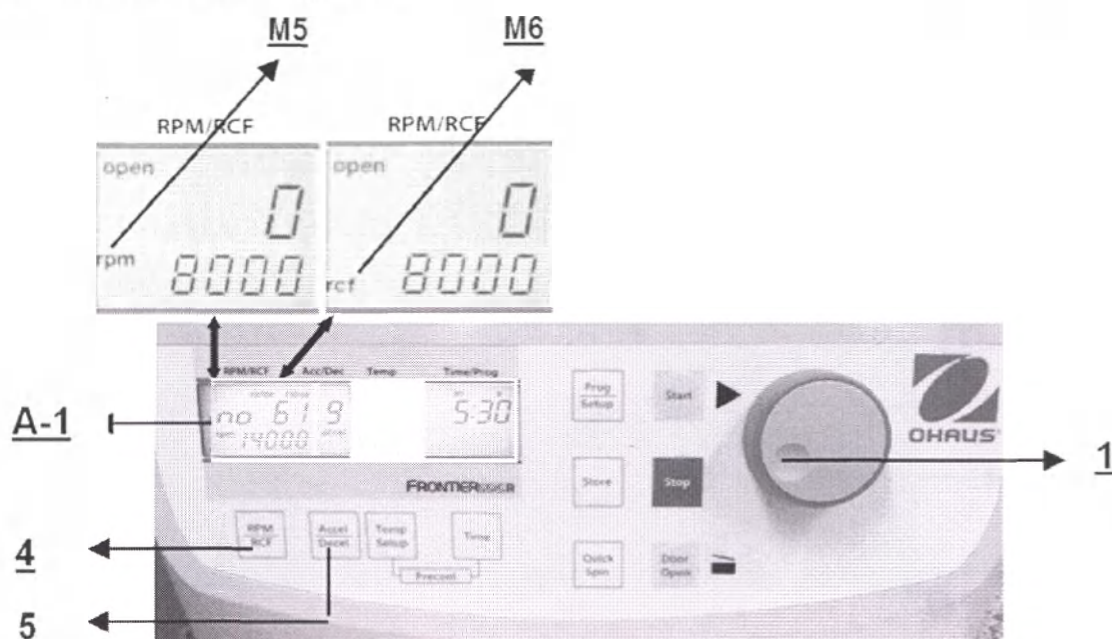

Fig. 16
To preset these parameters, the key **RPM | RCF** (4) is used (see Fig. 16 below). By pressing the key once the designation **rpm** (M5) starts blinking.